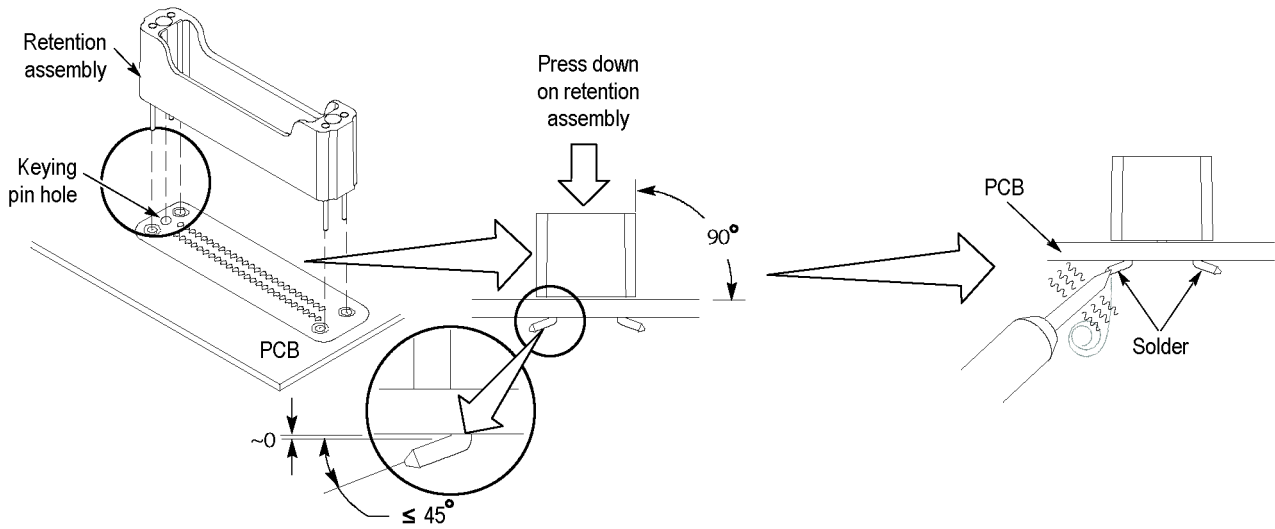

Figure 4: Installing the probe retention assembly
3. Align the retention assembly over the footprint so that the keying pin on the retention assembly lines up with the keying pin hole on the footprint. (See Figure 4 on page 7.)
surface, anchoring the assembly to the PCB. Bend the other three posts in the same manner. (See Figure 4 on page 7.)
7. Solder the anchoring posts to the PCB. (See Figure 4 on page 7.)